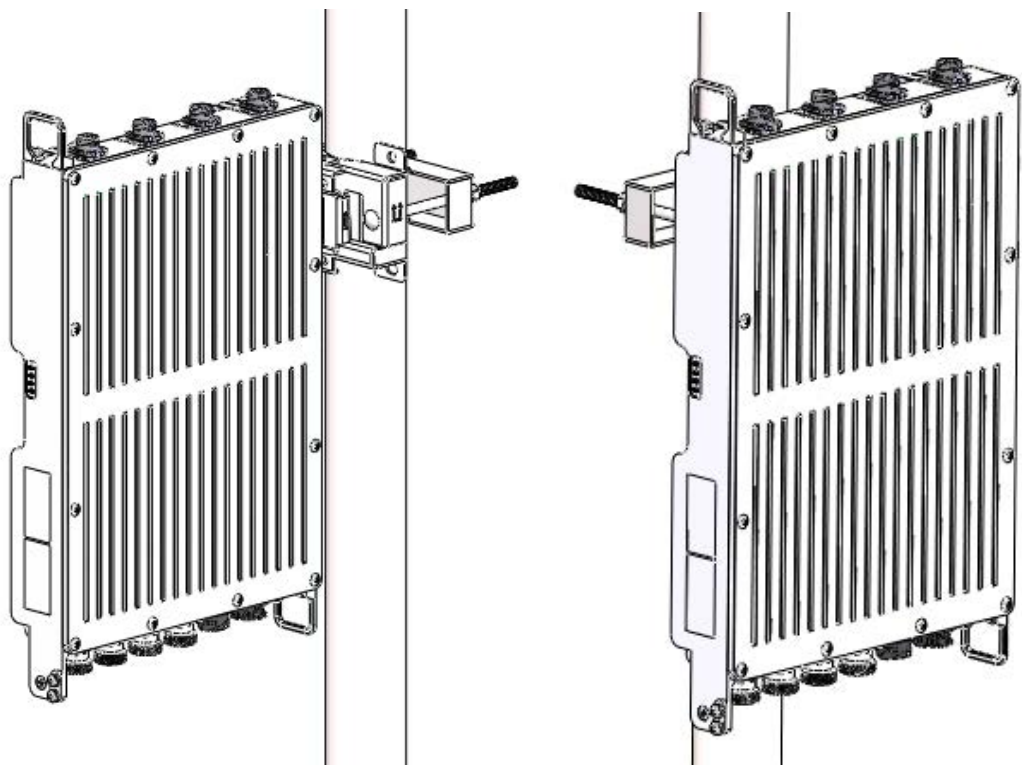

Figure 4-17 Put the equipment on the pole
3. Install the MCU device on the support and tighten the screws, as shown in Figure 4-17.